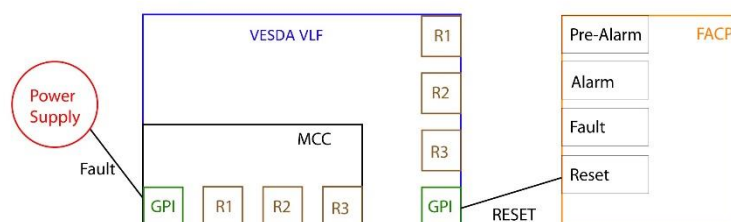

Figure 1: Example of one possible configuration for the detector and MCC GPIs
Having two GPI's available means that external power supply monitoring can be handled by the MCC GPI, leaving the VLF GPI free to perform one of the other five functions. For example, many local codes require that a smoke detector be reset from the associated FACP. With the MCC, this requirement can be met without sacrificing external power supply monitoring, another common code requirement. These two GPI inputs provide material savings on system equipment, since additional external monitoring and control modules are not required. The diagram below illustrates this configuration (Figure 1).
- When the MCC is configured with relay R3 selected instead of the MPO, the GPI performs the external power supply monitoring function discussed in the previous section and shown in Figure 1.